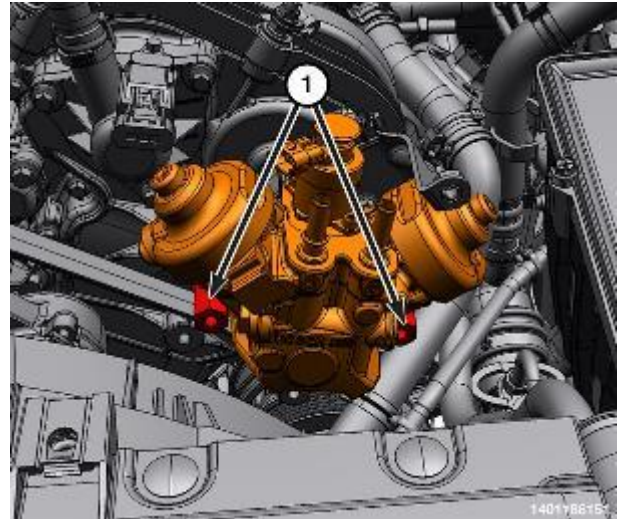

Figure 188 – HPFP Upper Bolts
30. Remove the upper bolts (1) from the high-pressure pump (Figure 188). Using Tool, High Pressure Pump Installation VM.10345 Install the studs in the upper locations.
42. Remove the Tool, High Pressure Pump Installation VM.10345 and install the high-pressure fuel injection pump upper bolts (Figure 188).